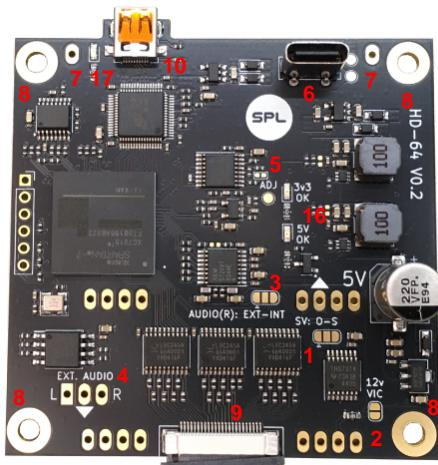

Figure 4. HD-64 Legend (Top)
1. Once the steps in Section 3.3 have been carried out and **before** performing any other step, turn on the computer and verify that both power leds are turned on (Item 16 in Figure 4).
1. (optional) In order to permanently fasten the HD-64 to the motherboard, drive a long pin or a piece of wire through the retainer pins close to the rear of the HD-64 (Item 7 in Figure 4) and solder one end to the top of the HD-64, and the other end to the exposed ground plane on the motherboard. (It is generally necessary to remove the motherboard from the case to perform this step)
Once all the steps in Section 3.3, Section 3.4 and Section 3.5 have been performed turn on the computer. The status LED next to the HDMI connector (Item 17 in Figure 4) should turn solid-green. If this does not happen this might indicate that the flat cable is not connected properly.
The jumper denominated "AUDIO ® EXT-INT" (Item 3 in Figure 4) controls whether the right audio channel receives the signal coming from the motherboard through the RF-Modulator header or the one coming from the "EXT. AUDIO" header (Item 4 in Figure 4). The right audio channel **receives no signal** until one side of the jumper has been closed.
The jumper denominated "SV: O-S" (Item 1 in Figure 4) determines whether the amplitude of the chroma signal (on the S-Video analog output) matches that of an original RF-Modulator, or if it should have the lower "standard-compliant" amplitude. **No chroma is available** on the S-Video analog output until one side of the jumper has been closed.
The jumper denominated "12v VIC" (Item 2 in Figure 4) should be closed when a 12v VIC-II is being used (VIC-II models 6567 & 6569).
In the unlikely case that the performance of the video synchronization circuit drifts over time, to the point that synchronization is no longer obtained (HDMI video output absent or unstable) it is possible to close the jumper denominated "ADJ" (Item 5 in Figure 4) to bring the synchronization circuit back within the optimal range of operation.